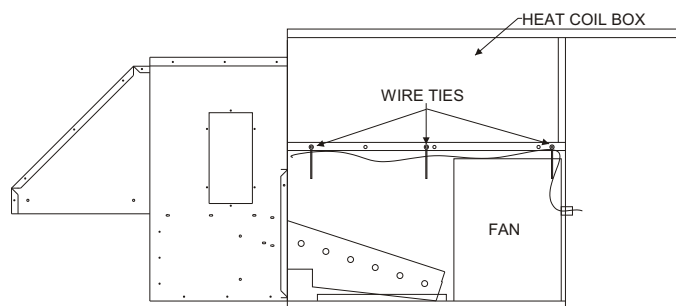

Figure 11: Installing Tie Wraps
13. Install three tie wraps along the bottom of the heat coil box as shown in Figure 11.